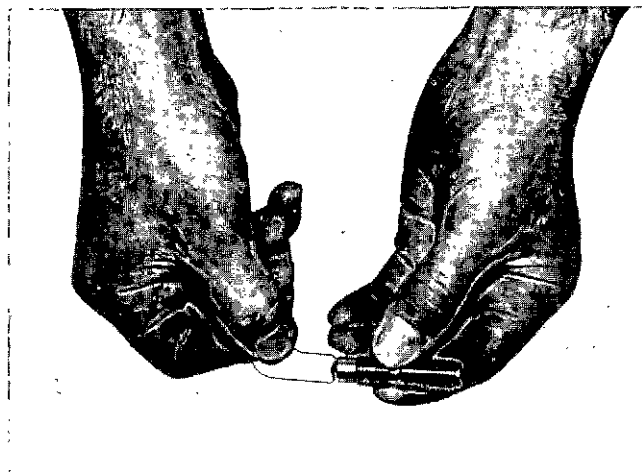

Fig. 3-1-3, N20305. Checking rocker lever adjusting screw ball end
4. The ball end of rocker lever adjusting screw must be a true sphere. Test with 1/4 inch [6.3500 mm] radius gauge. Replace if flat at bottom or there is evidence of scratching or galling. Fig. 3-1-3.